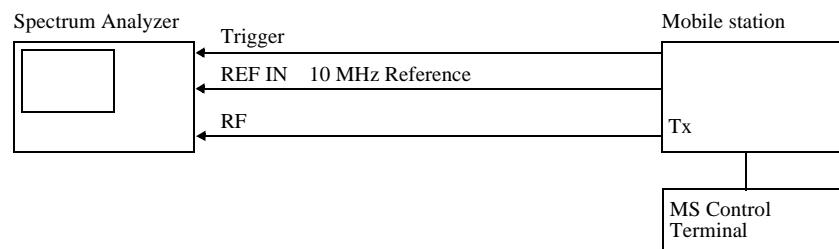

Figure 2-9 Setup for the measurement of the 3GPP signal
1. Connect the unit under test as shown in Figure 2-9.